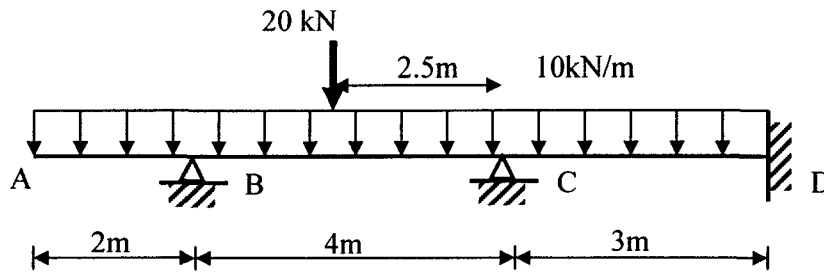

Figure 4
4. Using the Moment Distribution Method, calculate the bending moment at critical sections of the continuous beam shown in Figure 4. Then ;